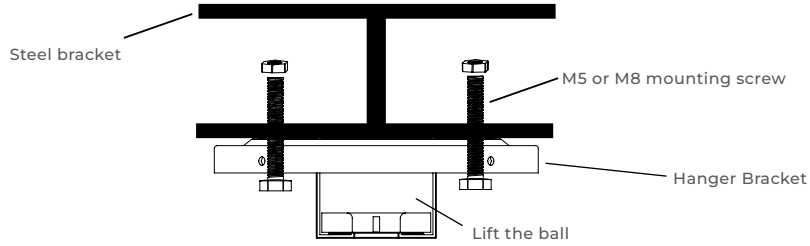

FIGURE 1
A) Secure the hanger bracket to the steel bracket on ceiling with M5 or M8 mounting screws and nuts. (See Figure 1)